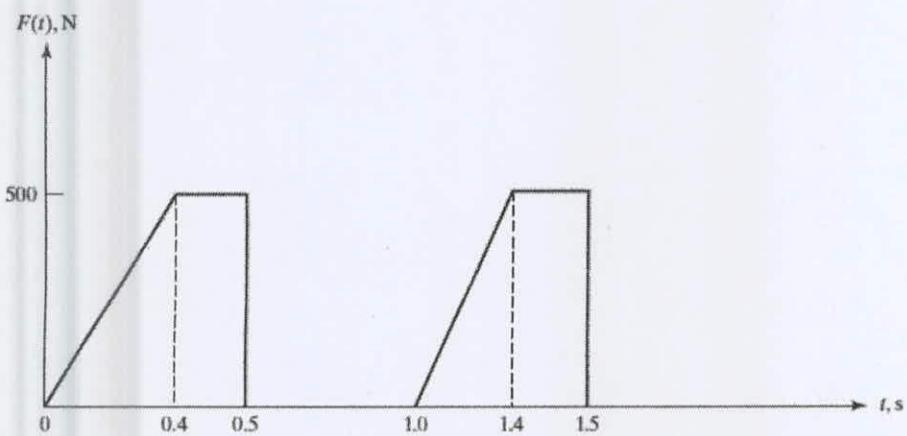

Fig. 2 (for Q. No. 2)
2. (a) Find the steady-state response of a viscously damped system with $m = 1 \text{ kg}$, $k = 400 \text{ N/m}$, and $c = 5 \text{ N-s/m}$ subject to the periodic force shown in **Fig. 2**. Determine only the first four terms of the Fourier coefficients a_0 , a_n , and b_n of the periodic loading. **(20)**